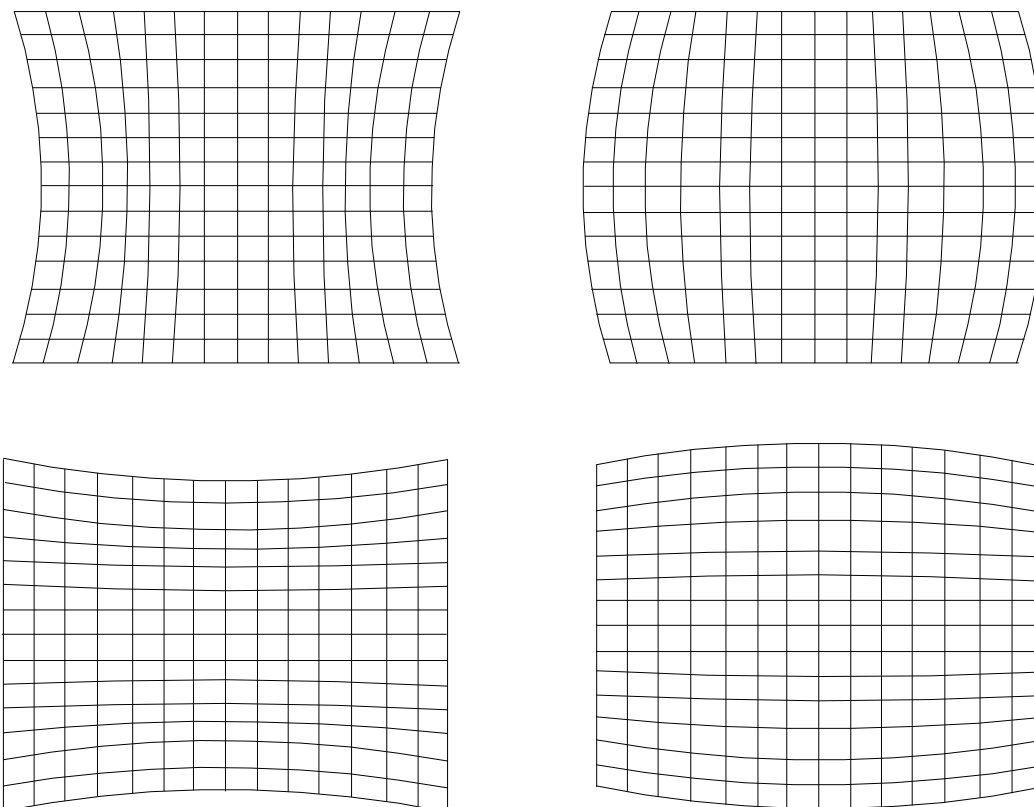

Figure 5-12. Four views of Pincushion Distortion. Use left/right keys for distortion at top and up/down keys for distortion at bottom.
The Pincushion Balance adjustment balances the pincushion error (see *Figure 5-6*) equally on both sides or top and bottom so that the Pincushion adjustment can be accomplished properly later. Although the center lines are straight, too much pincushion distortion on any side prevents the Pincushion adjustment from correcting the error. Balance the error equally so the result looks like one of the pincushion illustrations in *Figure 5-12*. Pincushion Balance is normally within range and should be observed first. Pincushion Balance is universal and color selection is not necessary.
2. Use the left/right arrow keys to correct pincushion distortion as shown on the top two patterns in Figure 5-12. Use the top/bottom arrow keys to correct pincushion distortion as shown on the bottom two patterns in Figure 5-12.